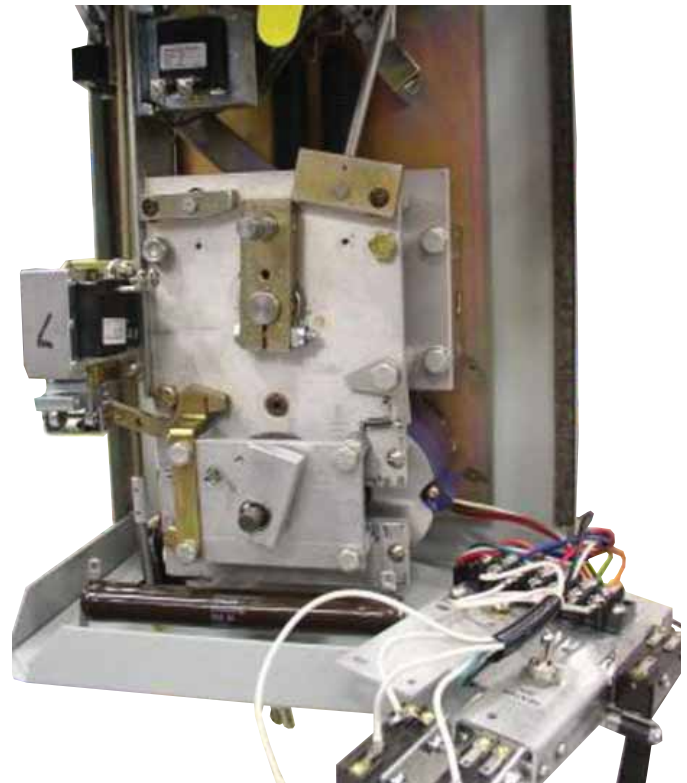

Figure 30.
- f. Gently set aside the microswitch plate and wiring. Refer to Figure 30.